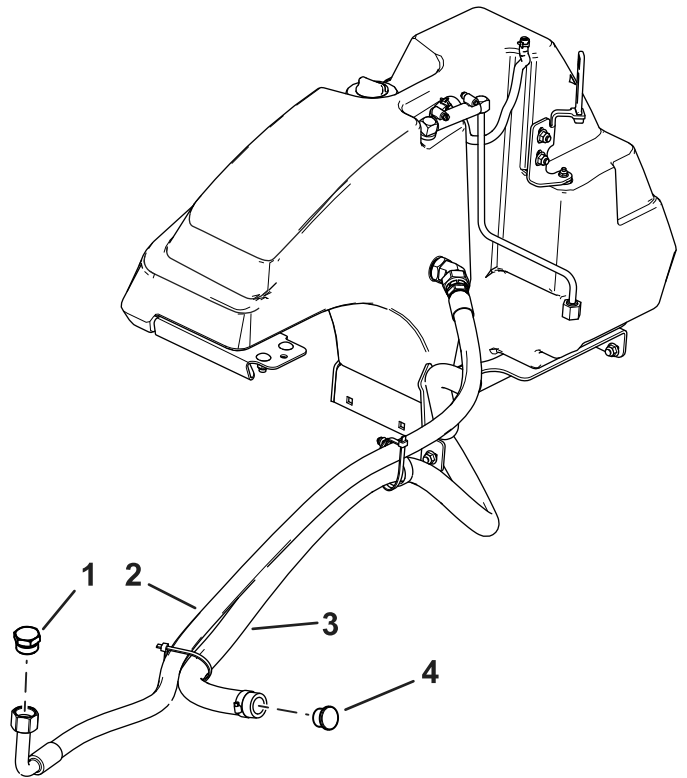

Figure 20
1. When you remove the broom, install the metal plug into the end of the side hydraulic hose and the plastic plug into the strainer hose. Refer to Figure 20.